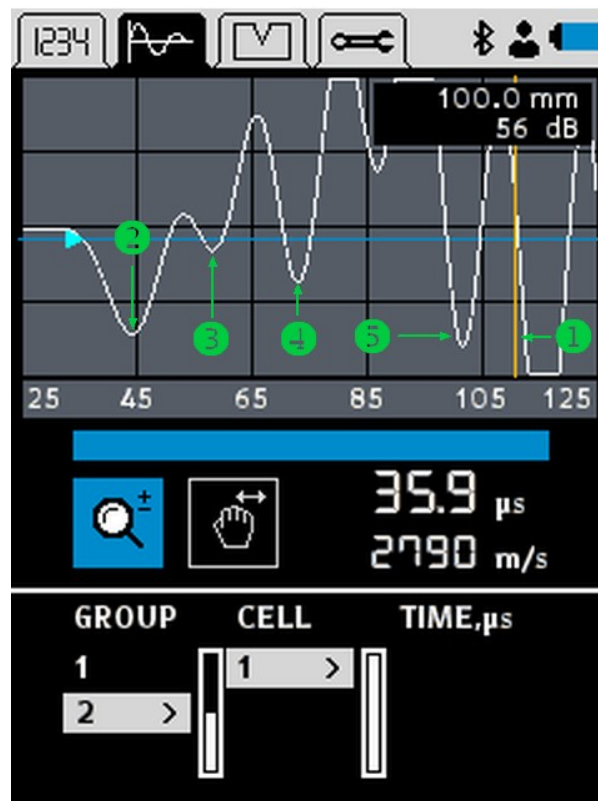

Figure 23: Search depth set wrong
In case of the thin sample the multiple reflections from the walls arrive at the receiver almost simultaneously, Figure 23. The superposition of the waves traveling along paths ① and ② (and other paths which are not depicted) diminishes the waveform events.^[38] This results in significant time estimation errors.